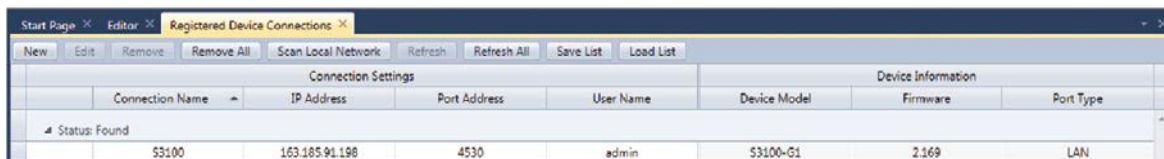

Figure 3.6—Device Connections tab (device connected)
5. Click **OK** to connect to the device, which should now appear on the “Device Connections” tab in the Main screen, as shown in Figure 3.6.